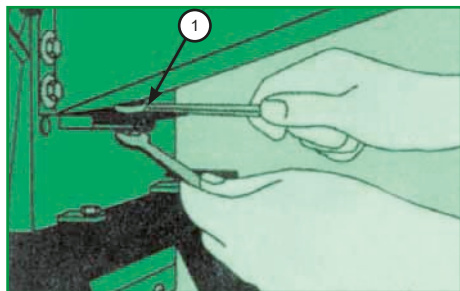
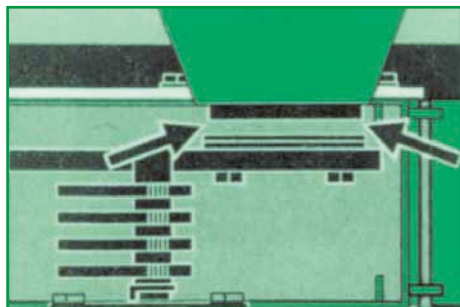

Fig. 1
Fig. 2
Periodic tightening of screws as well as the adjustment of the counter cutting blades are essential. The adjustment is done by loosening the hexagon nut (1) as in figure 1 and by displacing the counter cutting blade until the cutting blades pass at a distance of approximately 1.5 mm from the counter cutting blade (figure 2).